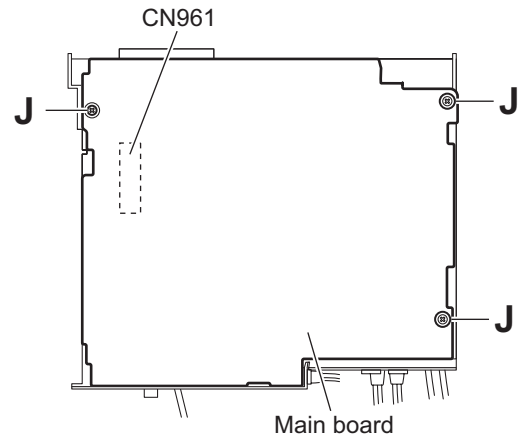

Fig.7
- From the bottom side of the main body, remove the three screws **J** attaching the main board. (See Fig.7.)
- Disconnect the connector **CN961** on the main board from the DVD mechanism assembly and take out the main board from the main body. (See Fig.7.)